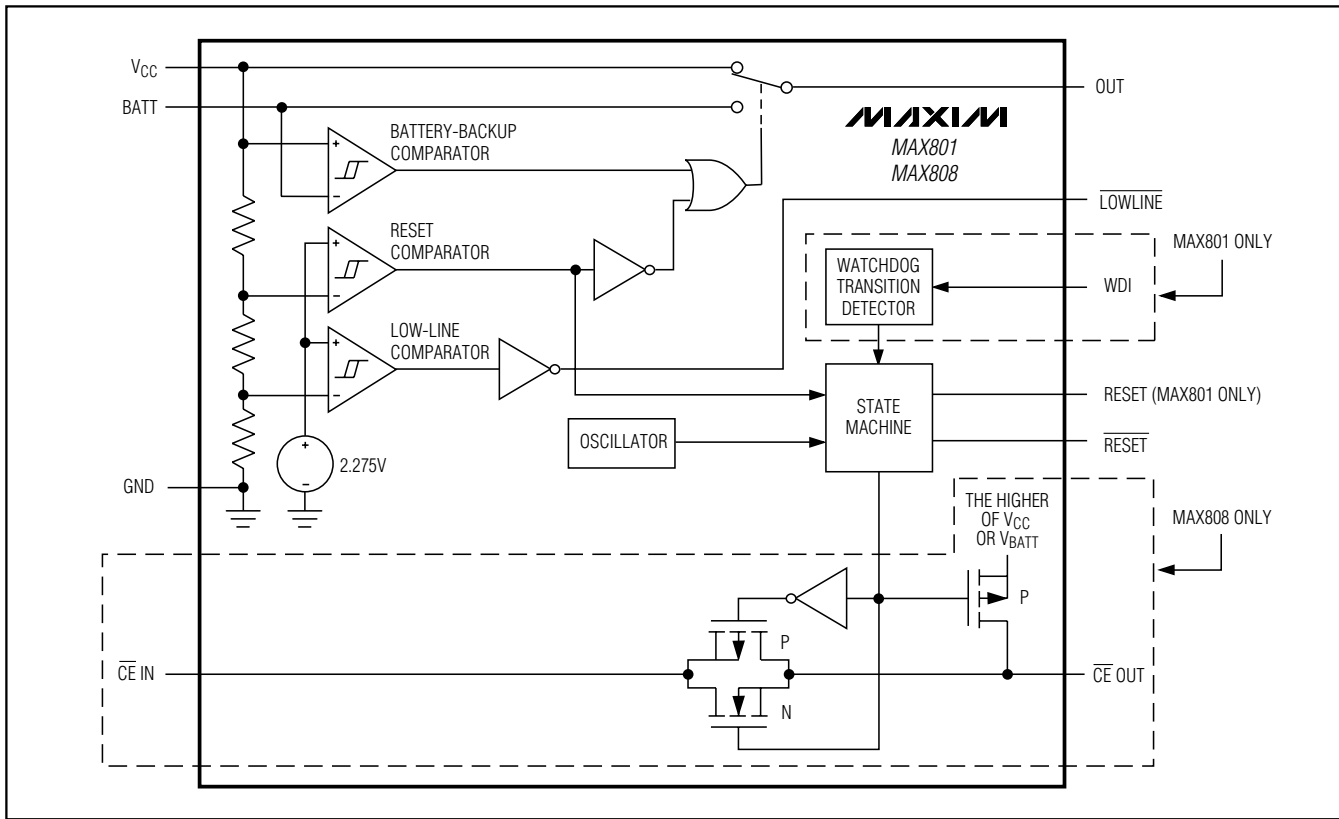

Figure 1. Functional Diagram
The MAX801/MAX808 microprocessor ( $\mu\text{P}$ ) supervisory circuits provide power-supply monitoring and backup-battery switchover in  $\mu\text{P}$  systems. The MAX801 also provides program-execution watchdog functions (Figure 1). Use of BiCMOS technology results in an improved, 1.5% reset-threshold precision while keeping supply currents typically at  $68\mu\text{A}$  ( $48\mu\text{A}$  for the MAX808). The MAX801/MAX808 are intended for battery-powered applications that require high reset-threshold precision, allowing a wide power-supply operating range while preventing the system from operating below its specified voltage range.
The MAX808 provides internal gating of chip-enable (CE) signals to prevent erroneous data from corrupting CMOS RAM in the event of a power failure. During normal operation, the CE gate is enabled and passes all CE transitions. When reset is asserted, this path becomes disabled, preventing erroneous data from corrupting the CMOS RAM. The MAX808 uses a series transmission gate from the chip-enable input ( $\overline{\text{CE}}\text{ IN}$ ) to the chip-enable output ( $\overline{\text{CE}}\text{ OUT}$ ) (Figure 1). The 8ns max chip-enable propagation from  $\overline{\text{CE}}\text{ IN}$  to  $\overline{\text{CE}}\text{ OUT}$  enables the MAX808 to be used with most  $\mu\text{P}$ s.